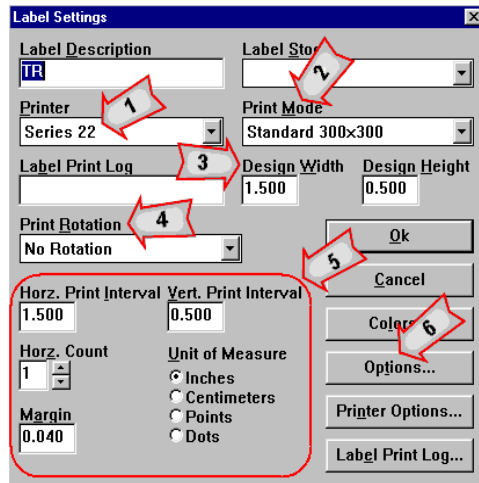

Figure 1-5
1.9. Double click on a blank area of the label to open the *Label Settings* dialog box. (Figure 1-5)
1.10. Take note of the values that are in the options called out by Figure 1-5 Arrows 1 through 5. You will need to know this information later.
1.11. Click [**Options**]. (Figure 1-5 Arrow 6)